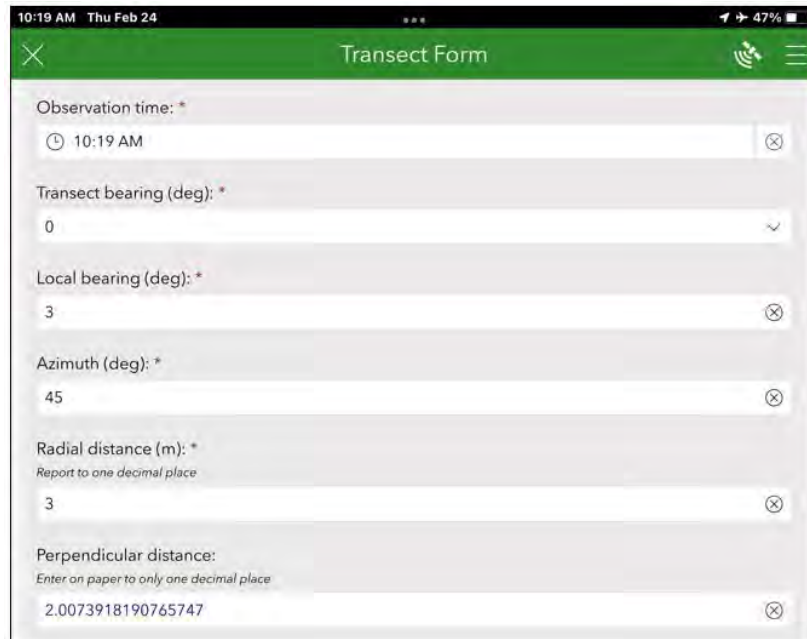

Figure 7-11
5. **Auto-calculated Fields** – Several fields are auto calculated based on the input in previous fields, for example Perpendicular distance is calculated based on the Local bearing, Azimuth, and Radial distance fields (Figure 7-11). Once the required input fields are filled in, tap on the calculated field to trigger the calculation. The text in these fields is blue and cannot be manually edited.